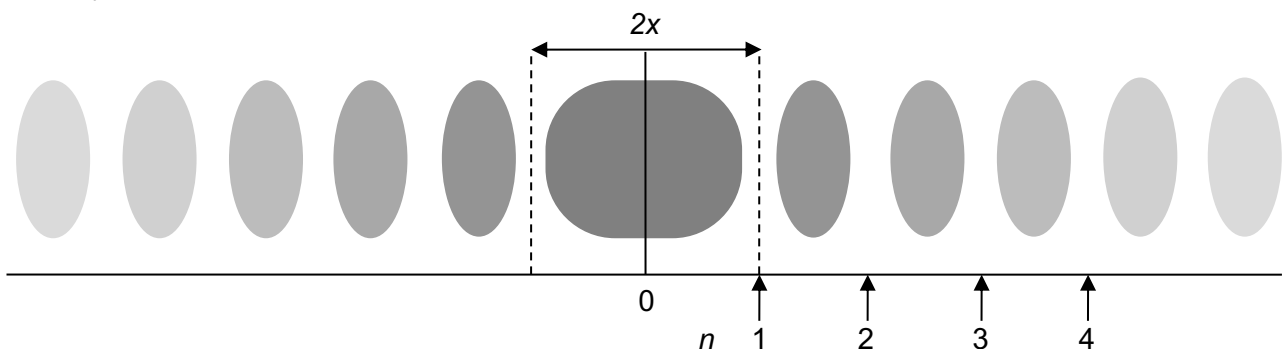

Figure 6: A sketch of the diffraction pattern of a single slit. The dark regions represent the bright regions in the diffraction pattern.
- Measure the separation on the screen of **10** pairs of symmetrically placed minima (see figure 6)